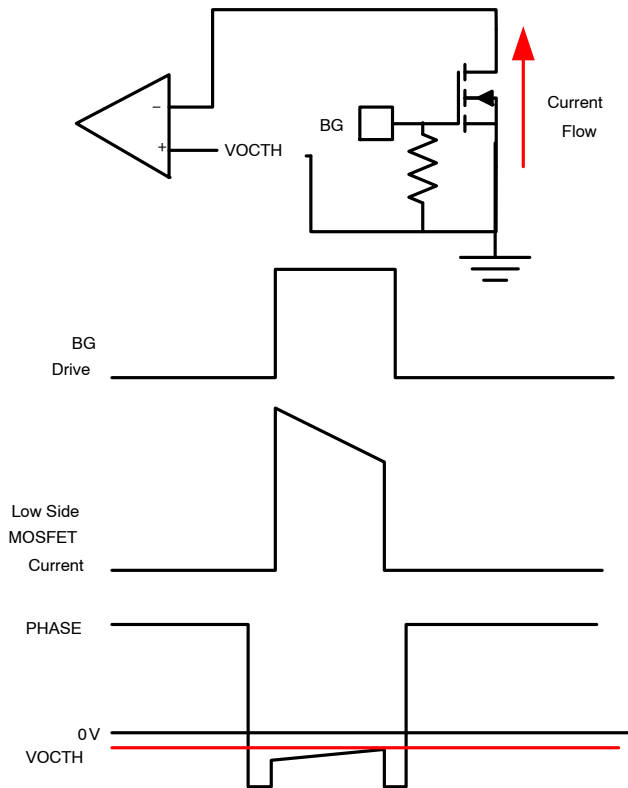

Figure 20. Current Limit Trip
In case of an overload, the low-side (LS) FET will conduct large currents. The regulator will latch off, protecting the load and MOSFETs from excessive heat and damage. Low-side $R_{\text{DS(on)}}$ sense is implemented at the end of each LS-FET turn-on duration to sense the current. While the low side MOSFET is on, the V_{SW} voltage is compared to the user set internally generated OCP trip voltage. If the V_{SW} voltage is lower than OCP trip voltage, an overcurrent condition occurs and a counter counts consecutive current trips. If the counter reaches 7, the PWM logic and both HS-FET and LS-FET are turned off. The regulator has to go through a Power On Reset (POR) cycle to reset the OCP fault as shown in Figure 20.